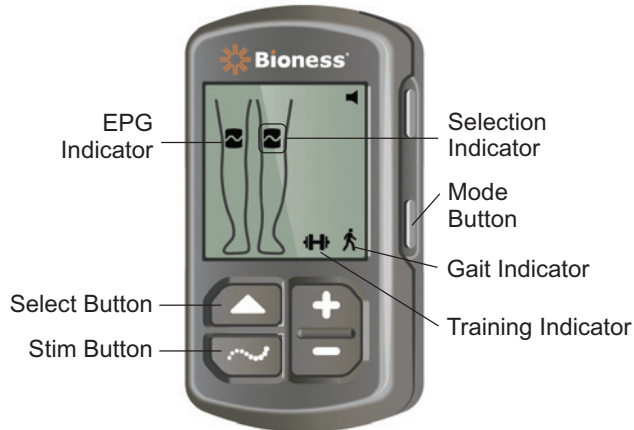

Figure 7-1: Selecting a Operating Mode on the Control Unit
3. The paired EPG(s) will appear in the digital display on the Control Unit with the Selection Indicator icon around the EPG Indicator icon(s). See Figure 7-1. Refer to the "Pairing a New Control Unit to the EPG" section of this guide for pairing instructions.
4. For users with both right and left Thigh Cuffs, the Select button on the Control Unit can be used to toggle between the right and left EPG or to select both EPGs. See Figure 7-1.
5. To select Gait mode, press the Mode button on the Control Unit until the Gait Indicator icon appears in the lower right corner of the digital display. See Figure 7-1.
Training Indicator icon appears in the lower right corner of the digital display. See Figure 7-1.
1. The stimulation intensity will need to be adjusted separately for each connected EPG. Press the Select button on the Control Unit to select desired EPG. See Figure 7-1.
3. Press the Stim button on the Control Unit to stop stimulation. See Figure 7-1.